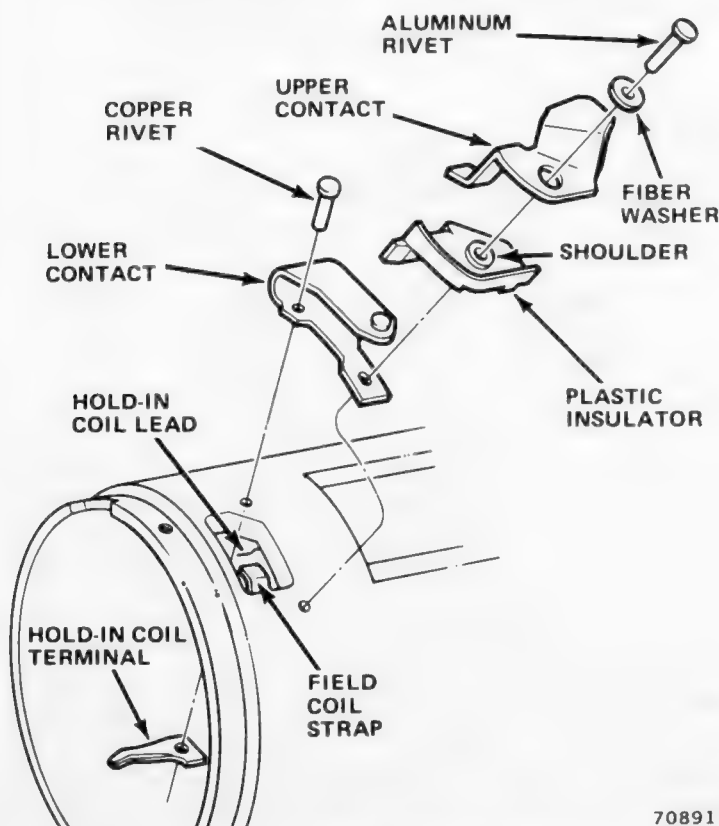

Fig. 1F-15 Solenoid Contact Replacement
(1) Cut upper contact as close as possible to contact-to-field coil joint.
- (2) Unsolder hold-in coil lead from terminal strip.
- (3) Remove field coil screws using arbor press and tool J-22516.
- (4) Cut rivets inside frame with chisel. Remove contact assembly.
- (5) Position replacement lower (movable) contact on frame (fig. 1F-15). Position hold-in coil terminal strip inside frame. Install *copper* rivet through contact, frame and terminal. Upset rivet.
- (6) Install plastic insulator, upper contact and fiber washer to remaining hole in frame. Install *aluminum* rivet and upset.
- (7) Install field coil assembly and screws. Apply drop of Loctite 222, or equivalent, to each screw.
- (8) Solder hold-in coil lead to terminal strip.
- (9) Solder field coil lead strap to upper contact. Use 500-600 watt soldering iron and rosin-core solder.